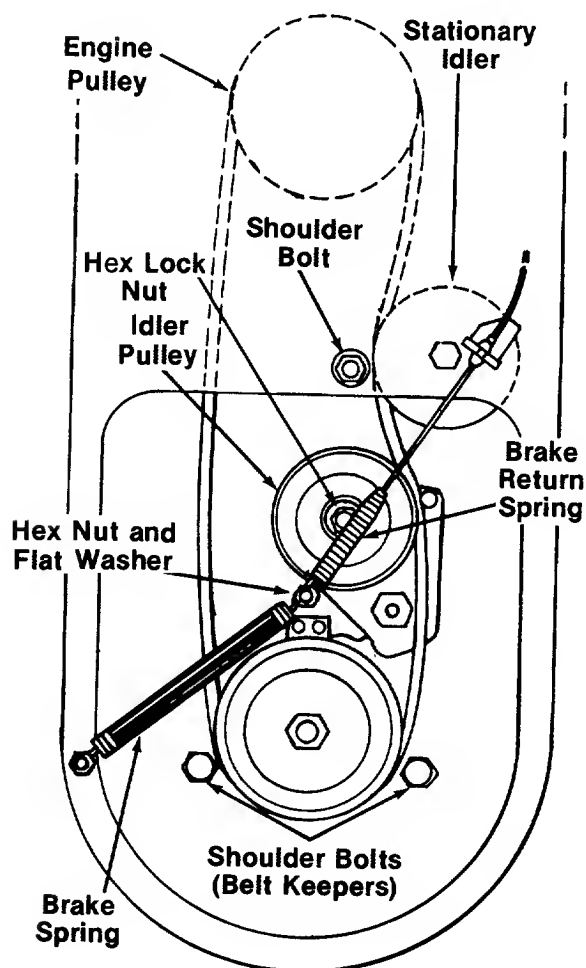

FIGURE 17.
4. Remove shoulder bolts (belt keepers) from each side of blade pulley. See figure 17.
5. Remove hex lock nut at brake bracket assembly. See figure 17.
6. Remove brake spring, flat washer and brake return spring from brake bracket assembly. See figure 17.
7. Remove the idler pulley from the idler brake bracket assembly. See figure 17.
8. Remove shoulder bolt (belt keeper) next to stationary idler. See figure 17.